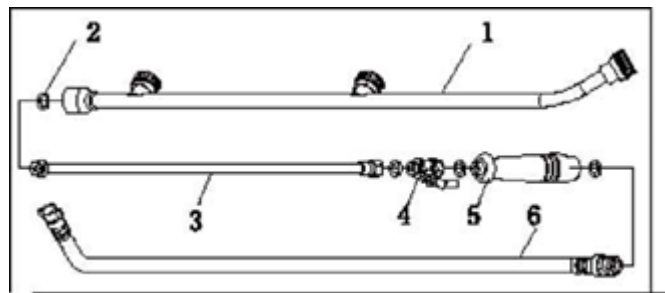

Figure 1
4.1.1 Connecting of spraying parts. Before start, all the connections should be correct, the method is as Figure 1.